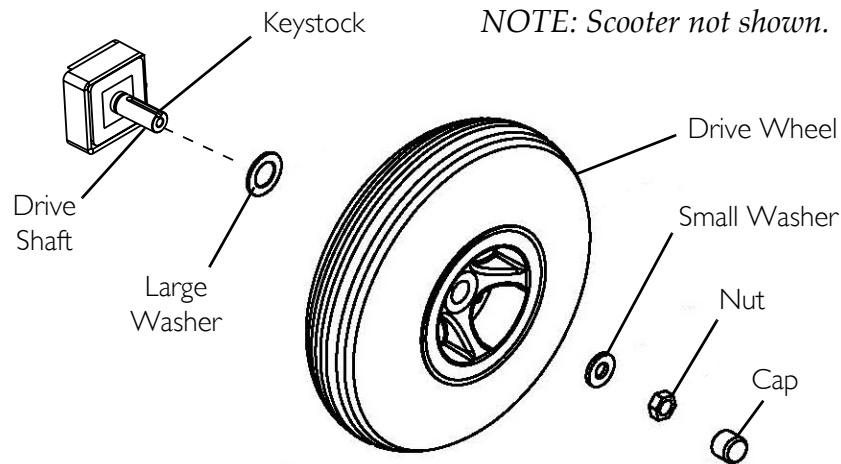

FIGURE 9.1 Removing/Installing the Drive Wheels
NOTE: For this procedure, refer to FIGURE 9.1 on page 33.
1. Place keystock in cutout on drive shaft as shown in FIGURE 9.1.